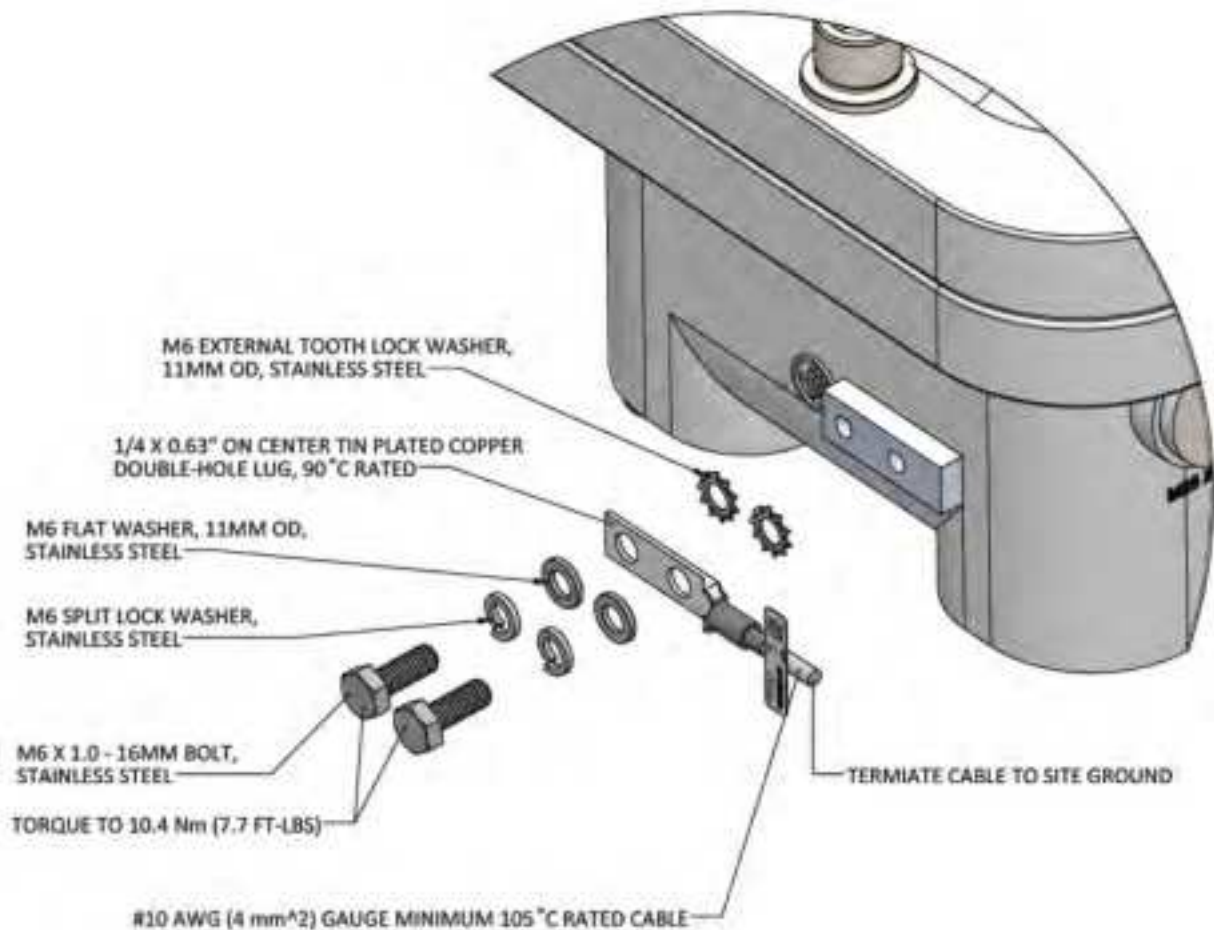

Figure 9: Kona Macro Ex Gateway PE Ground Installation
4. Install the ground cable through its double hole lug onto the chassis ground point using the two supplied M6 x 1.0 – 16 mm bolts with flat and star lock washers, torqued to 10.4 Nm (7.7 ft·lbs) (see Figure 9).